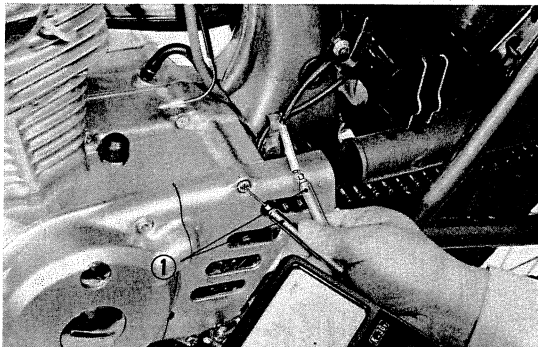

Fig. 48 ① Tester probes
- 4) With the help of tool "Flywheel Extractor 07011-20001," remove the flywheel while lightly tapping it around with the right hand. (Fig. 48)